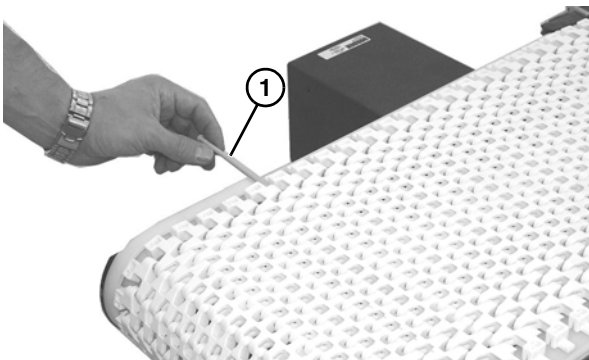

Figure 20
9. Insert the belt rod (**Figure 20, item 1**).